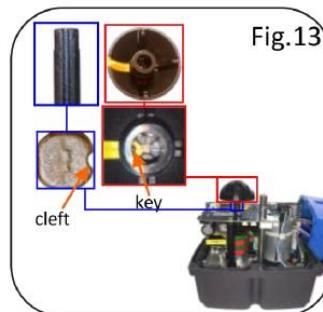

Fig.13
6.13 Carefully insert the position indicator, matching its inner key with the cleft of the shaft (Fig.13):